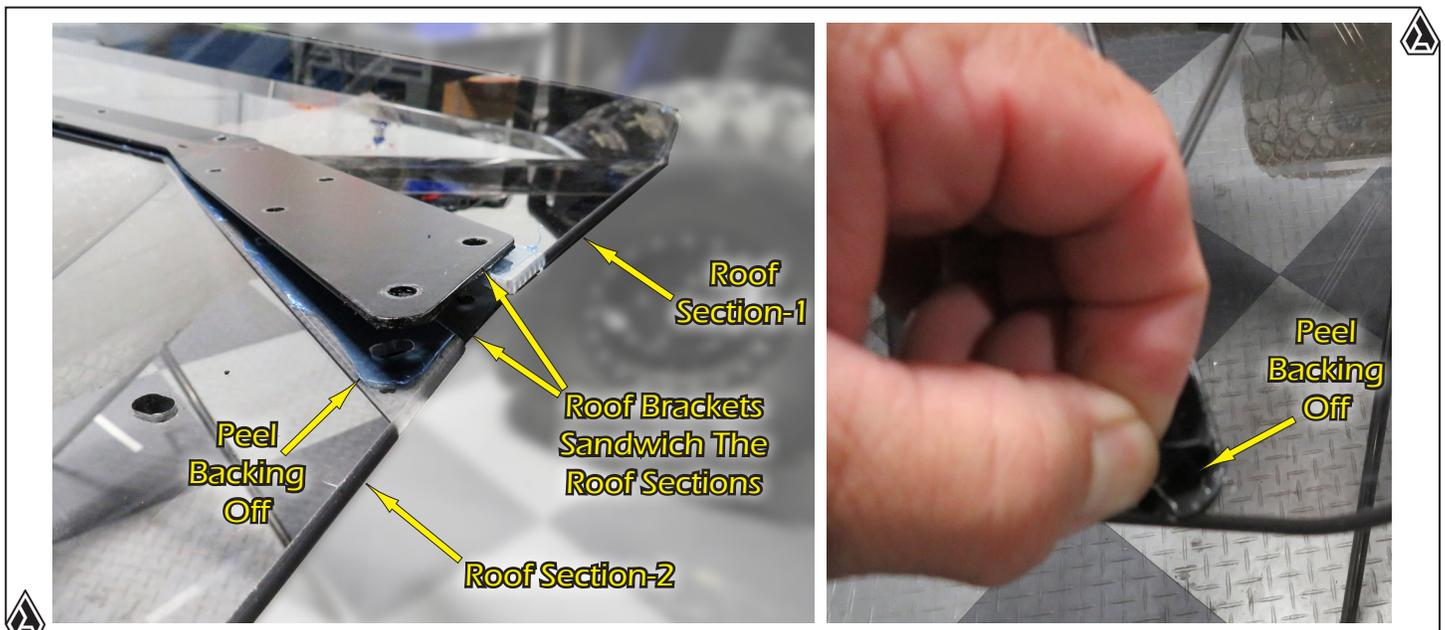

FIG.2
4. Now locate the two roof sections 1 & 2, and with using the two Roof Brackets, Sandwich the two Roof Sections with the Brackets as shown in **Fig.2**. Be sure to peel any backing from the sections off before installing the Roof Brackets, also shown in **Fig.2**.